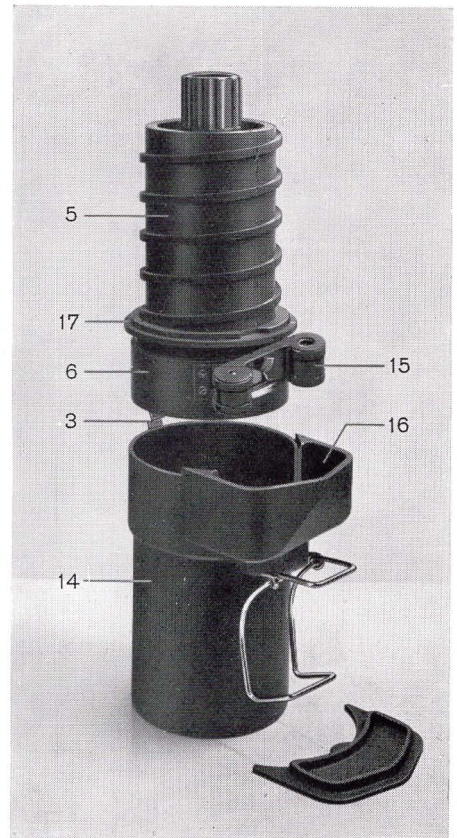

fig. 7
Cylinder (5) - fig. 7 - is now ready to be inserted in the tank (14) so that the magazine will take place in its proper seat (16) and the edge of flange (17) will be engaged by spring (3).